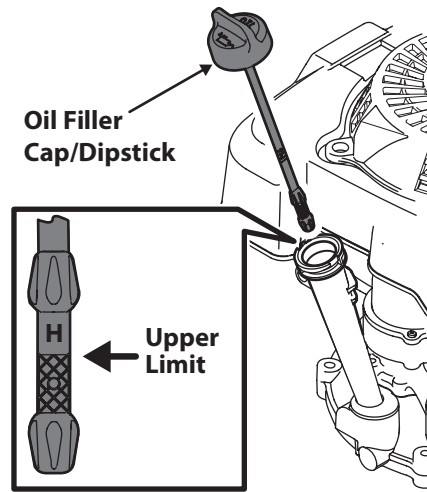

Figure 3-2
- Remove dipstick. If the level is low, slowly add oil to the upper limit on the dipstick. See Figure 3-2 inset.